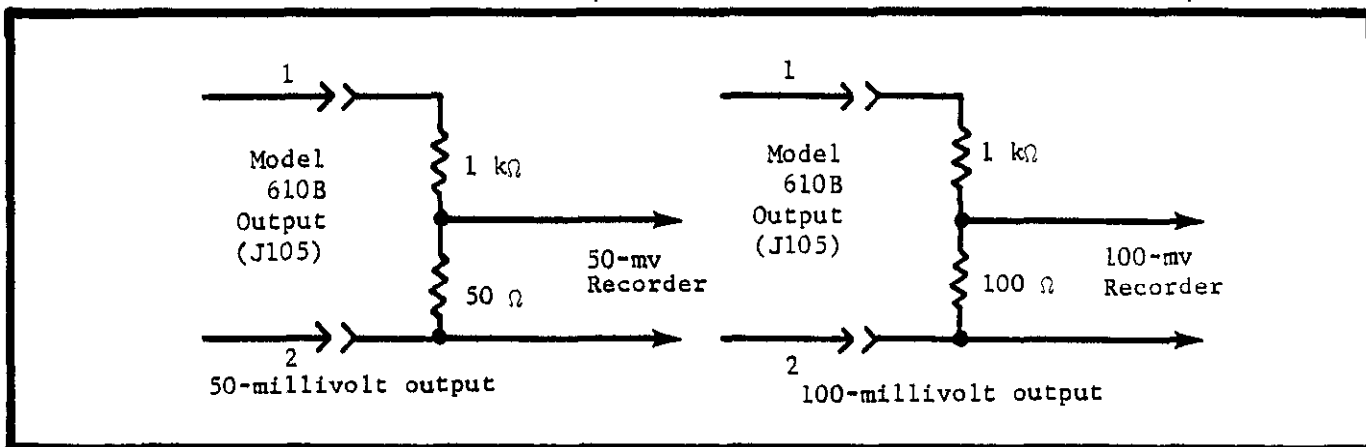

FIGURE 8. Divider Circuits Across Model 610B Output. The dividers are for driving 50 and 100-millivolt recorders. Use 1% resistors in the dividers.
e. For servo rebalance recorders, use a divider across the Model 610B OUTPUT Receptacle. See Figure 8. Set the Output Switch to 1 MA. Use the 1 MA CAL Control to trim the output for full-scale recorder deflection. Operation is the same as for current outputs.